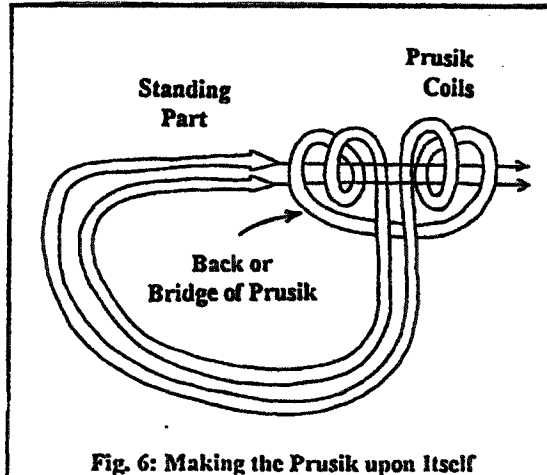
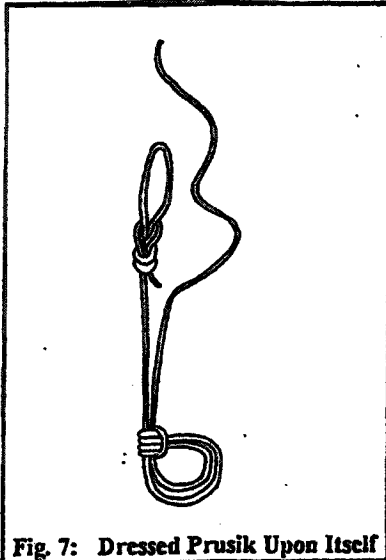

Fig. 6: Making the Prusik upon Itself
Fig. 7: Dressed Prusik Upon Itself
With efficiency information, the friction loss through the system can be calculated. Figure 7 shows the calculations for a pulley system with pulleys that have an efficiency of 0.90.
3. To make a Prusik Hitch upon Itself, the coils of the Prusik Hitch need to be made first, and then the standing parts of the Prusik Hitch are passed through the coils. With the back of the Prusik upon Itself identified (step 2), make the 4 coils of Prusik Hitch (Fig. 6), and then pass both standing parts—the long cord and the one with the Figure of Eight on a Bight—through the 4 coils. Dress the Prusik Hitch upon Itself (Fig. 7). This becomes the adjustable loop of your long foot Prusik. If this step was done